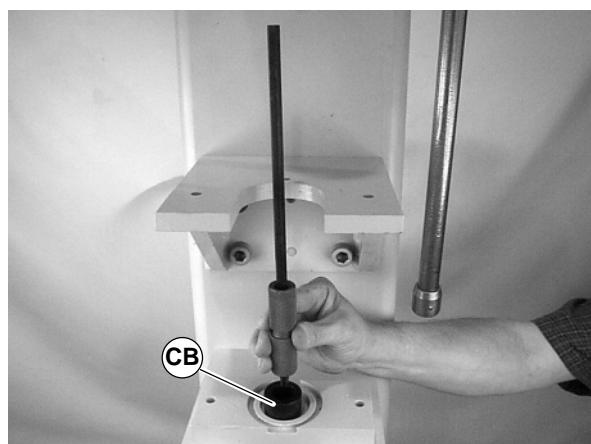

Figure 60
4. Orient bearing anvil/sleeve removal tool (25-09, part of tool kit 4500) (CB of Figure 60) with cavity facing up and place pulley onto tool.